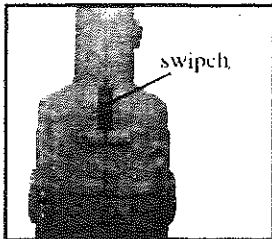

Fig 4
⑥ Adjust stepless speed regulator from 600rpm to 3000rpm according to requirement, it is the highest speed in the "6" position gradually slow down, lowest in the "1" position. (see the figure 4)